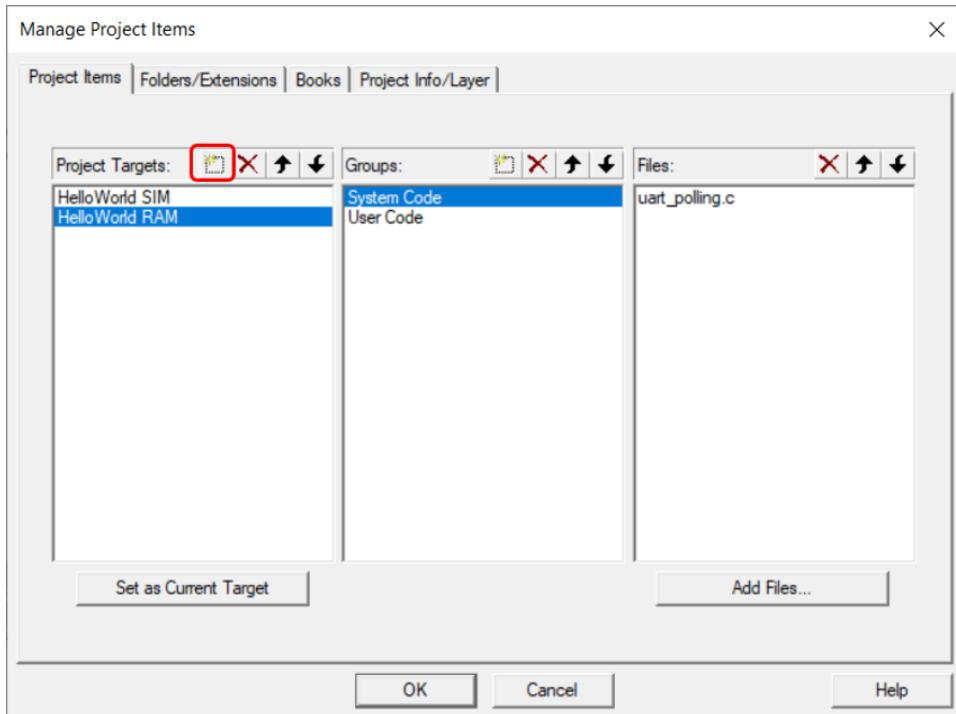

Figure 9.24: Keil IDE: Manage Project Items Window.
2. Press the New icon to create a new target and name it “HelloWorld RAM” (see Figure 9.24). The new target duplicates the HelloWorld SIM target configuration.